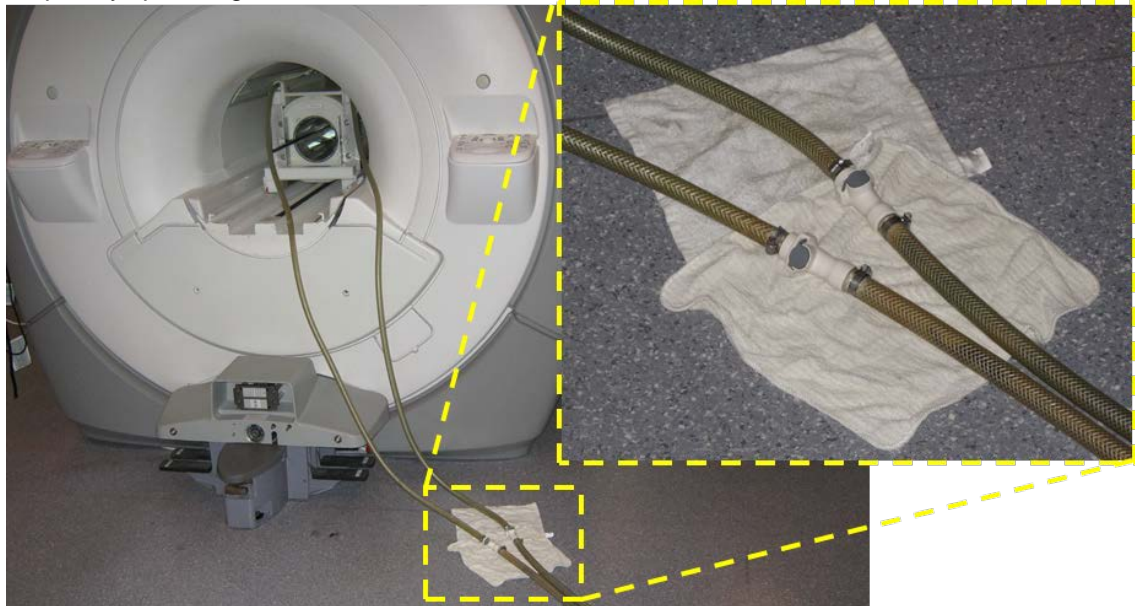

Figure 11. Connection of water-cooling lines for the insert.
- b. Connect hoses to the insert coil (Fig. 11) as far as possible from the main magnet.